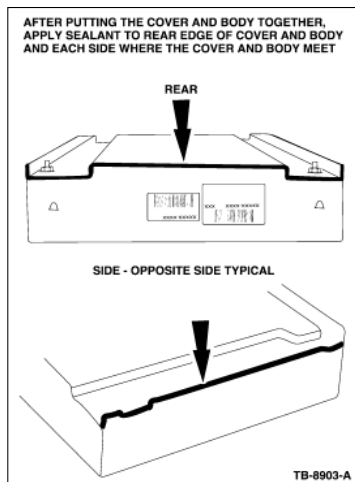

Figure 8 - Article 07-14-1
10. Reassemble the PCM, and bend the retaining clips back fully. Make sure a full seal is created around the top edge of the PCM - add sealant as required. (Figure 8)